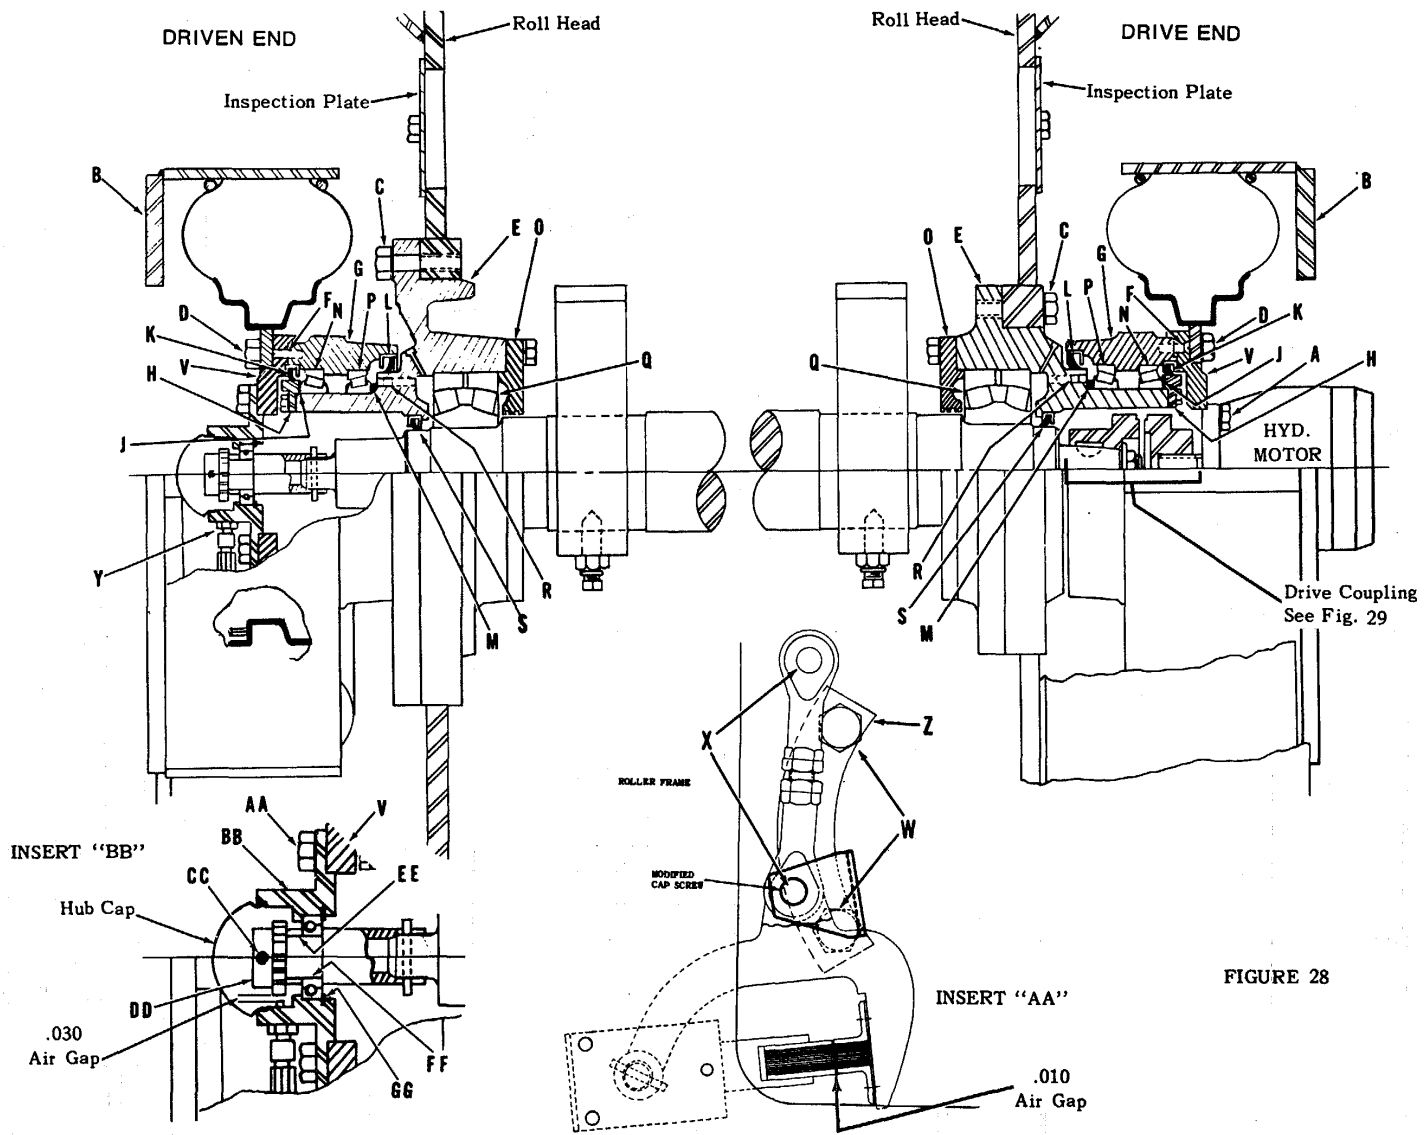

FIGURE 28
A. ROLLER AND ISOLATOR (TIRE) REMOVAL FOR ACCESS TO VIBRATOR SHAFT BEARINGS AND SEALS (Fig. 28). ALSO REFER FOLLOWING "STEP B".
B. VIBRATOR SHAFT BEARING AND SEAL REPLACEMENT (Fig. 28)
Drive Coupling - Removal and Reassembly. Ref. Figs. 28 and 29.
14. (Fig. 28) Remove four 3/8" x 1" flat head machine screws (F) and remove wheel flange (V) from wheel hub (G).
15. Six 3X/8" x 1/4" cap screws with tab locks hold the bearing carrier ring (H) to roll hub (E). Flatten tab locks and remove cap screws to remove bearing carrier ring. Also remove shims immediately behind the bearing carrier ring.
16. Remove wheel hub (G) from roll hub (E). With the wheel hub, seals (L) and (K), cup of bearing (P) and bearing (N) will be free of roll hub (E). Pull cone of bearing (P) off roll hub and remove spacer (M).
17. Seals (L) and (K) may now be removed from wheel hub, and cones of bearings (P) and (N).
18. Remove eight 1/21" x 1i/1" self-locking cap screws holding labyrinth retainer (O) to roll hub (E).
19. The roll hub (E) contains three 3/8" x 2" socket hd. dog pt. set screws (R). These are used to jack out bearing (Q) far enough so a puller can be used to remove bearing from the roll hub. Remove bearing. Return set screws into tapped holes. Remove seal (S).
Driven End - Fig. 28 and Insert "BB"
Assembly (Fig. 28) . Steps 23 thru 27 are identical for both sides.